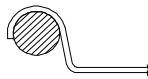

Figure 1
- Step 1:** Ensure the gasket is properly fitted in the cover groove. (Fig. 1 or 2)